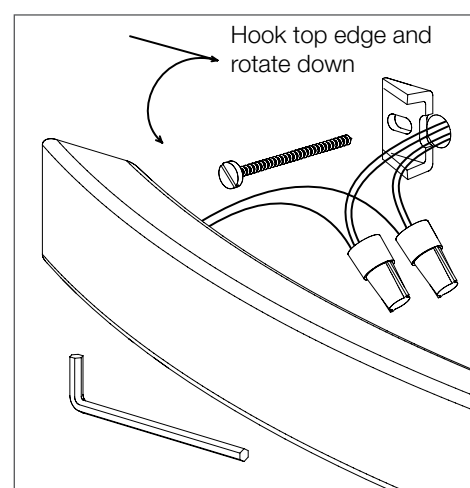

Fig 5.0
- Finally, fix the towel rail in position using the allen key provided. See Fig 5.0